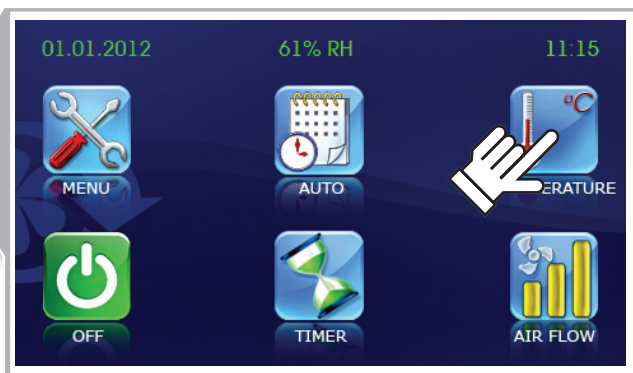

Fig. 10. Regulated temperature
- Press the button **TEMPERATURE**  (fig. 10).